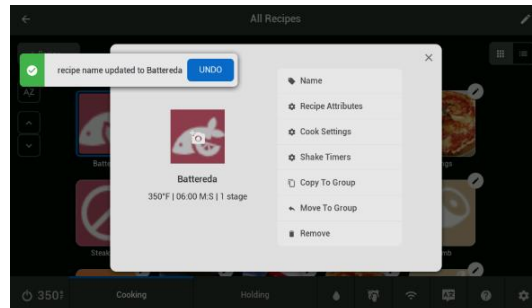

Figure 49 - UNDO Edit
- Operator has a few seconds to click , or the changes will be accepted **Figure 49**.
Operator has a few moments to click , or the changes will be accepted **Figure 49 - UNDO Edit**.